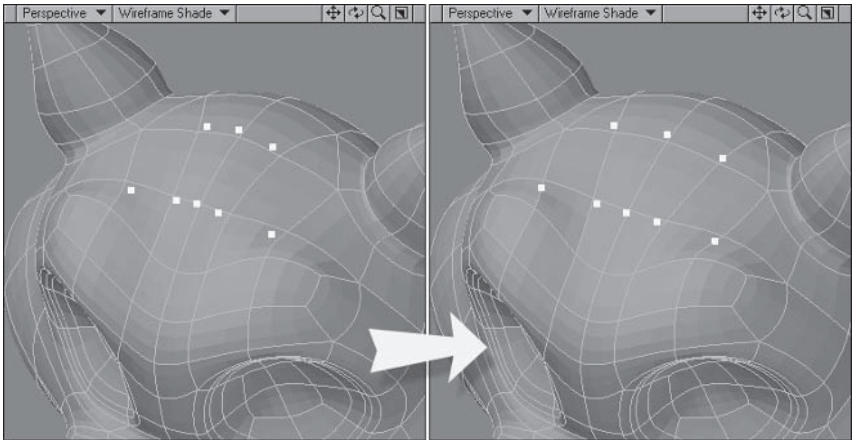

Figure 5.3-89. Adjusting the points.
14. Adjust the points shown in Figure 5.3-89 so they're smooth and more evenly spaced.